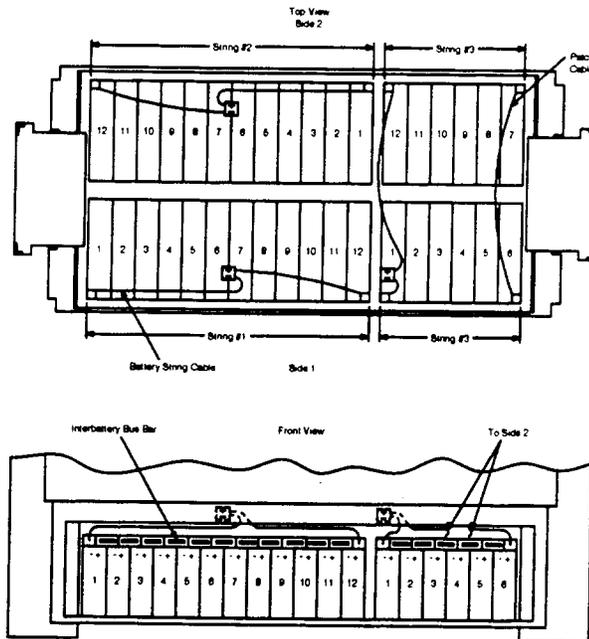

Figure 1 — Layout of Lineage 2000 VR Series Batteries in 80D Cabinet
8. Place all 12 batteries in the battery compartment as shown in Figure 1.